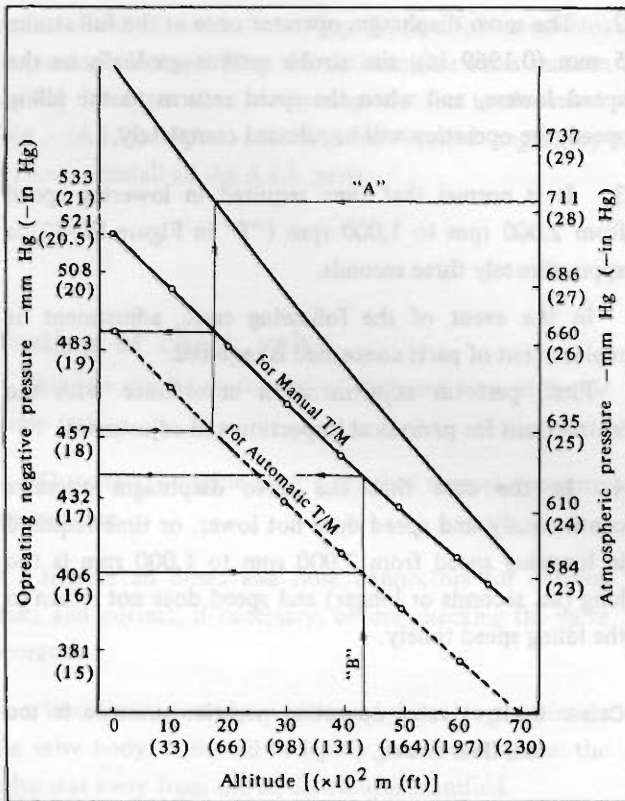

Fig. EC-31 Operating negative pressure of control valve
Control valve operating negative pressure changes in response to altitude as described previously. Hence, operating negative pressure to be adjusted should change in response to the altitude (the atmospheric pressure) of the place where, the vehicle is driven. Figure EC-31 indicates relationship between operating pressure to be adjusted and altitude (atmospheric pressure).
How to read the Figure EC-31
Loosen the lock screw (2) and adjust the vacuum adjusting screw (1) correctly so that the operating negative pressure meets the value obtained from the Figure EC-31.